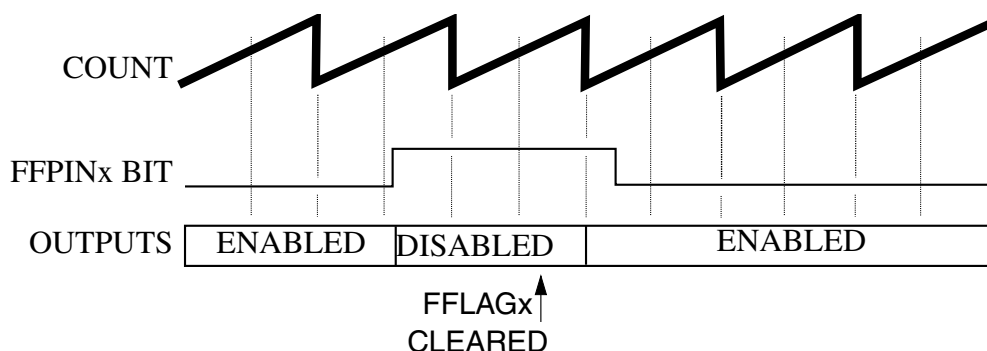

Figure 26-30. Manual fault clearing ( $FCTRL[FSAFEx] = 0$ ,  $FSTS[FFULLx] = 1$ )
- The pins are enabled when the next PWM full or half cycle begins regardless of the logic level detected by the filter at the `FAULTx` pin, as shown in Figure 26-30. If `FSTS[FFULLx]` is set, then the disabled PWM pins are enabled at the start of a full cycle. If `FSTS[FHALFx]` is set, then the disabled PWM pins are enabled at the start of a half cycle.